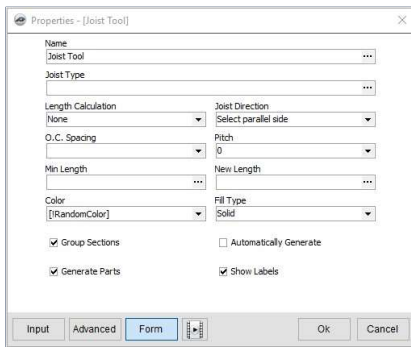

Figure 4
4. The **Joist Tool** properties are shown in Figure 4. The **Joist Tool** template has been configured to completely handle a joist tool layout of various sizes. Click on **Advanced** to see the advanced **Joist Tool Properties**.